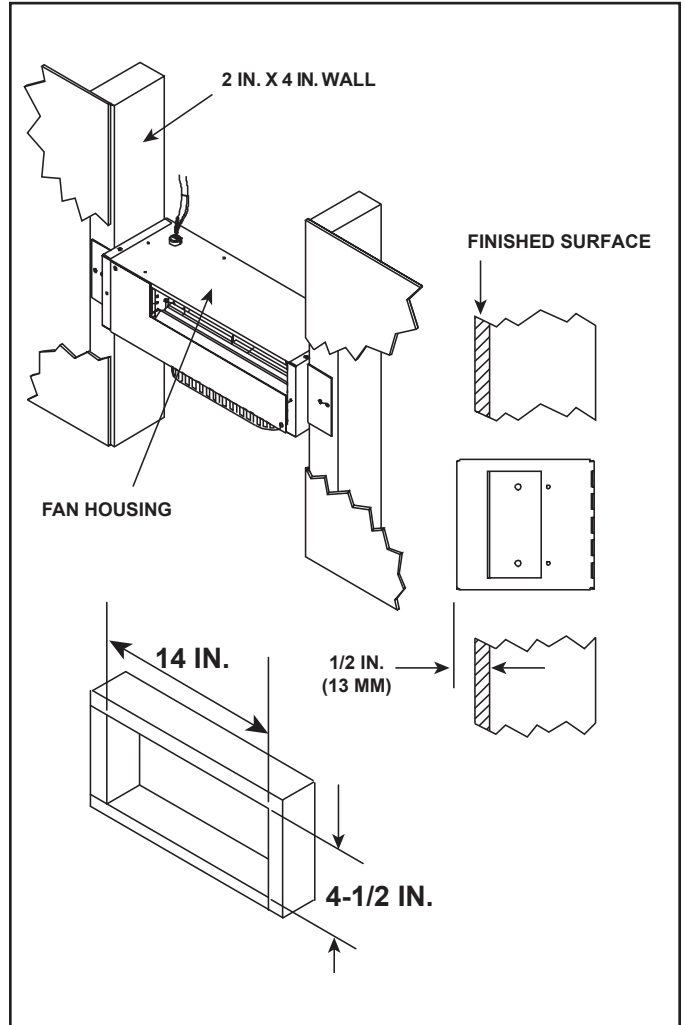

Figure 7. Wall Mounting (2 X 4)
**Note:** The brackets can be rotated 180° and mounted to the back side of the 2 x 4 if necessary. See Figure 7.
If the fan housing is installed in a 2 x 4 wall, the front of the housing will protrude approximately 1/2 in. (13 mm) out of the wall. See Figure 7.